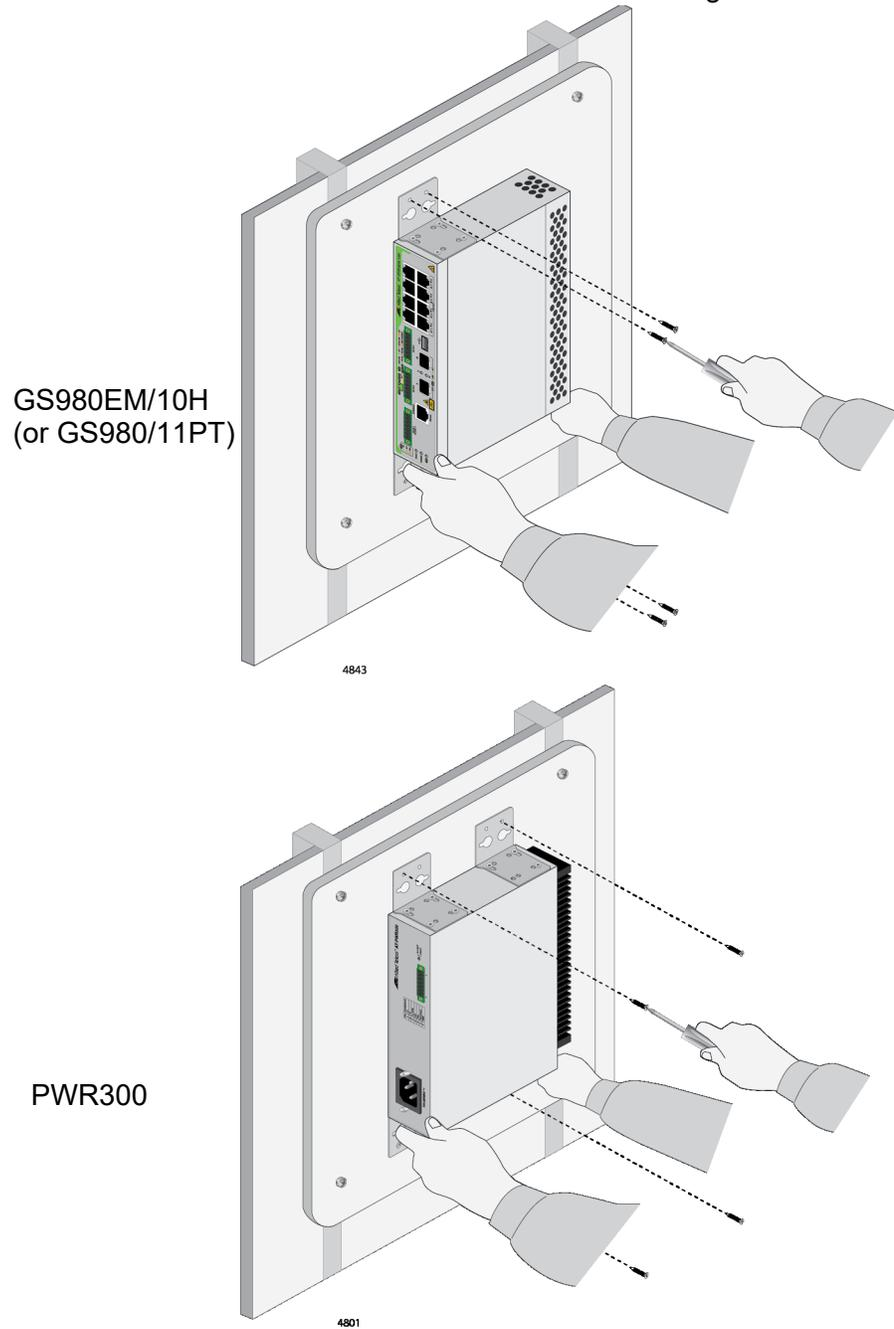

Figure 54. Securing the Device to the Plywood Base
- Position the device so that the front panel is facing left, right, or down. Refer to Figure 54 on page 112. Do not install it with the front panel facing up.
3. After attaching the brackets, have another person hold the device on the plywood base on the wall while you secure it with the four M4x32mm screws included with the device. Refer to Figure 54.